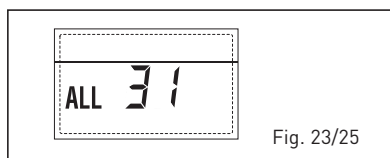

Fig. 23/25
– **THREE-ZONE SYSTEM CONFIGURATION ANOMALY “ALL 32” (fig. 23/26)**